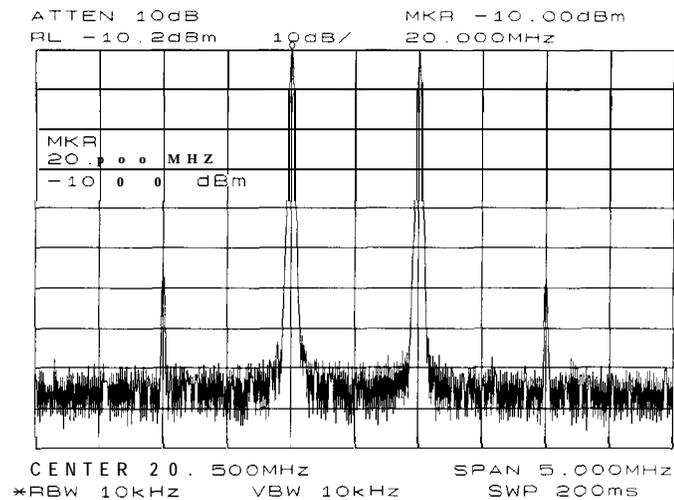

Figure 2-23. Signal Peak Set to Reference Level
- b. Set the reference level to this value by pressing **[MKR →]**, **MARKER → REF LVL** . Figure 2-23 illustrates the resulting display.